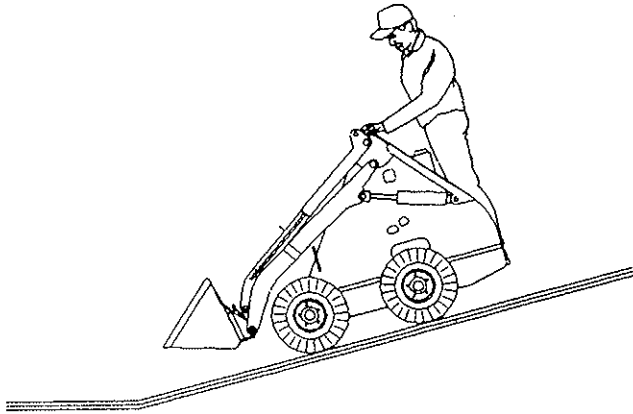
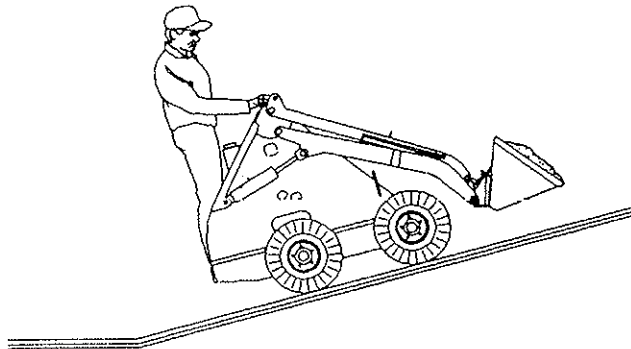

FIGURE 10 - EMPTY BUCKET
FIGURE 11 - FULL BUCKET
5. When driving on slopes keep the heaviest end of the Mini-Skid upward. When driving on a slope with an empty bucket, back up the slope in reverse, and drive down a slope forward as in **Figure 10**. When driving on a slope with a load, drive up the slope forward and back down the slope in reverse as in **Figure 11**.